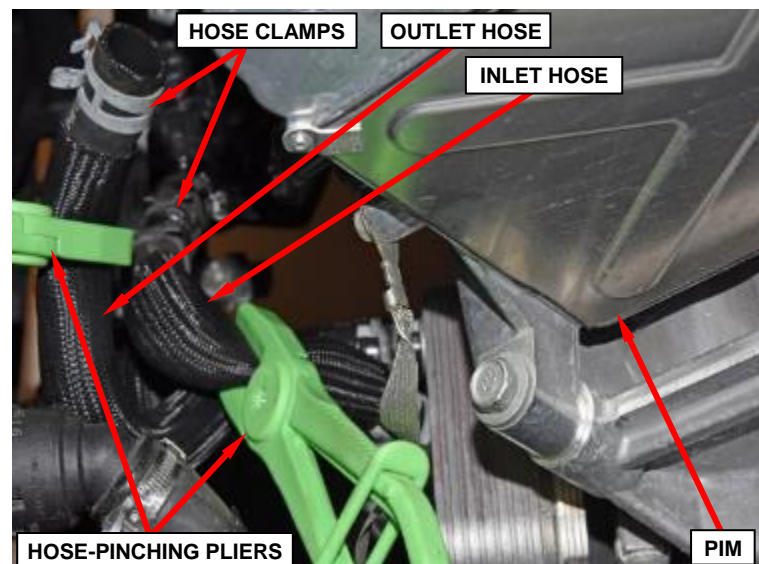

Figure 19 – PIM Coolant Inlet And Outlet Hoses
37. Using suitable hose-pinching pliers, clamp-closed the coolant inlet and outlet hoses near the PIM (Figure 19).
38. Loosen the clamps and remove the coolant inlet and outlet hoses from the PIM. Cap the coolant hose ends and the nipples on the PIM (Figure 19).